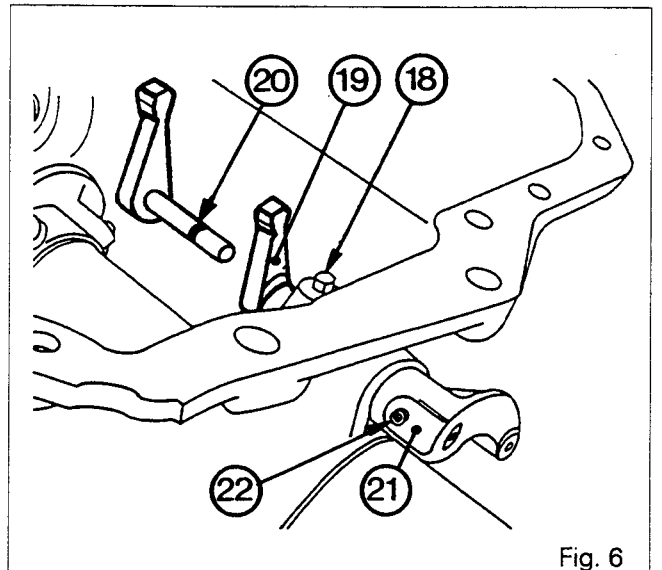
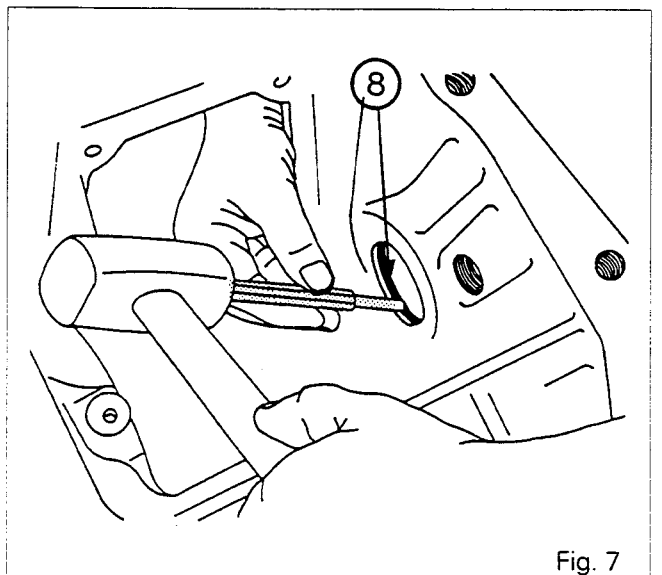

Fig. 6
Fig. 7
13. Remove the elbow connector (23).
14. Unscrew the nut (16) and remove the vehicle speed, sensor (15).
15. Unscrew the nut (25) and remove the position sensor (26).
**For tractors equipped with economy 4-speed, carry out operations 16 to 19 (Fig. 6).**
16. Undo the Allen screw (22) in the lever (21).
17. Undo the screw (18).
18. Remove the control finger (19).
19. Remove the O-ring (20).
20. Flatten tabs locking the bolts (2) retaining the lift arms..
22. Remove the washers (1).
24. Remove the lift arms (5) (11) and the thrust washers (30).
25. Remove the nylon rings (6) and the O-rings (7).
26. Remove the set screws (14) in the cam (9).
27. Withdraw the lift shaft (4) from the cover.
28. Remove the cam (9).
29. Withdraw the bushes (8) (Fig. 7).
30. Remove the cup plug (17) (2-speed PTO).